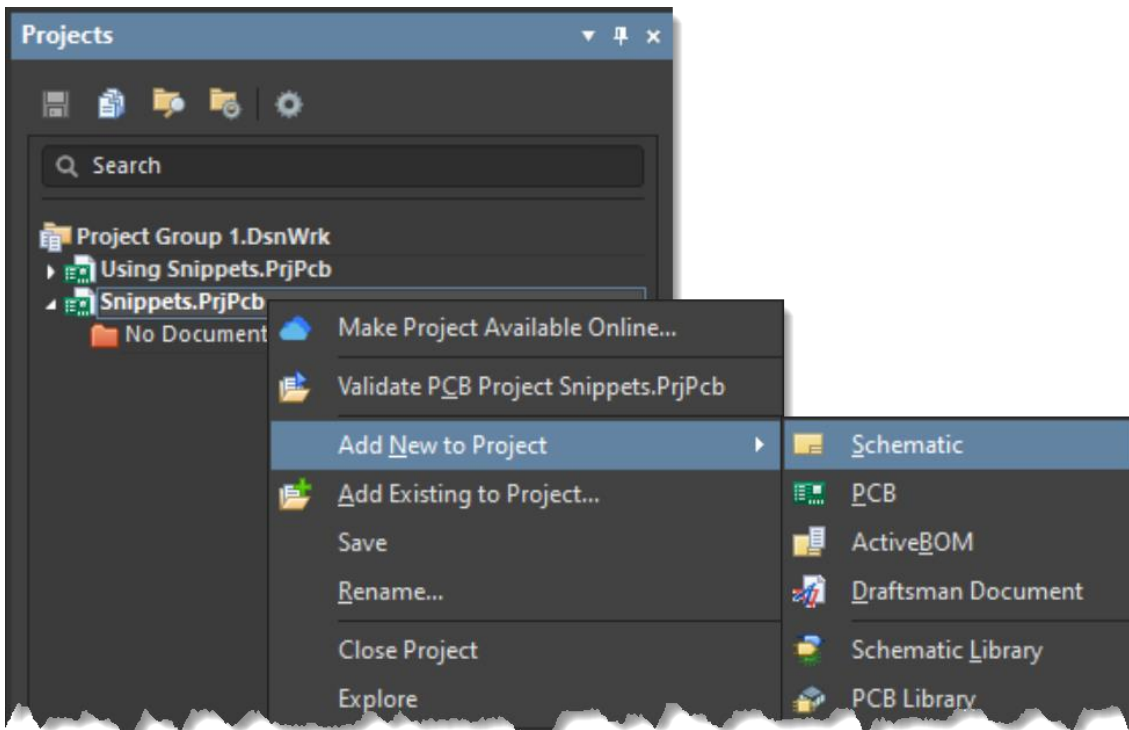

Figure 12. Adding New Schematics to the Project
29. Right click on the new `Snippets` project from the *Projects* panel and select **Add New to Project » Schematic** as shown in Figure 12. This will add a new schematic to the project with a default name of `Sheet1.SchDoc`.